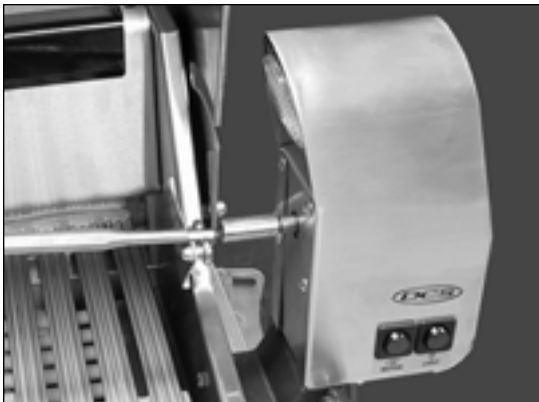

FIG. 33
1. Place prepared rod into motor, lay across into the rollers on the other side (Fig. 33).